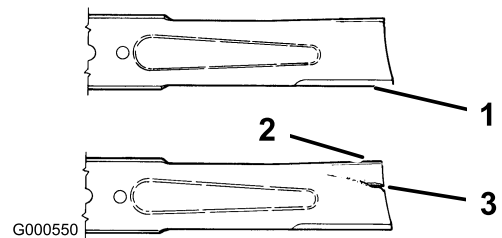

Figure 37
1. Inspect the cutting edges (Figure 37). If the edges are not sharp or have nicks, remove and sharpen the blades; refer to Sharpening the Blades.
2. Inspect the blades, especially the curved area (Figure 37). If you notice any damage, wear, or a slot forming in this area (item 3 in Figure 37), immediately install a new blade.